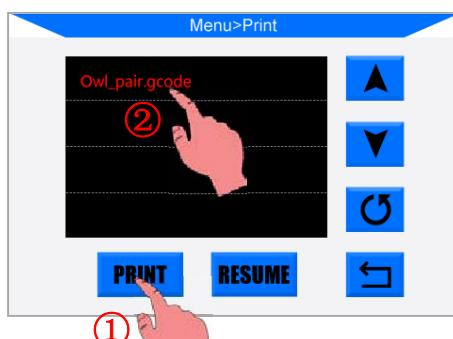

Figure 31
3. Insert the SD card into the SD card slot at the base. On Home Menu, Click “Print” to enter the files list. Click a exist file (e.g. “owl_pair”), and click “Print”(**Fig.31**). The machine will be sequentially heating the heated bed and nozzle and then print.